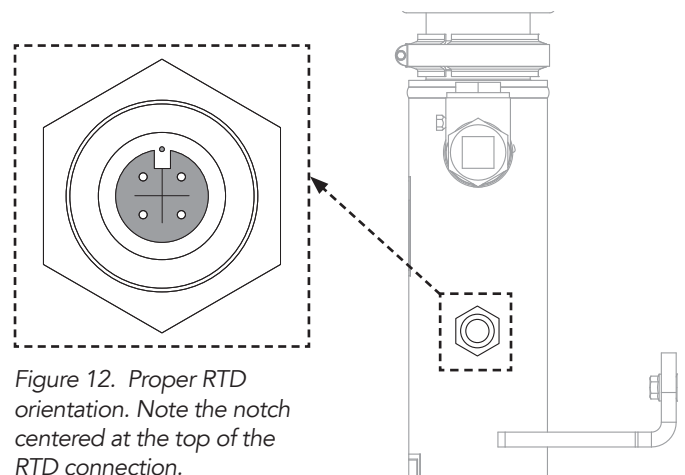

Figure 12. Proper RTD orientation. Note the notch centered at the top of the RTD connection.
5. Screw replacement RTD to tank. When tightening, ensure plug is aligned with notch toward top of tank. See *Figure 12*.